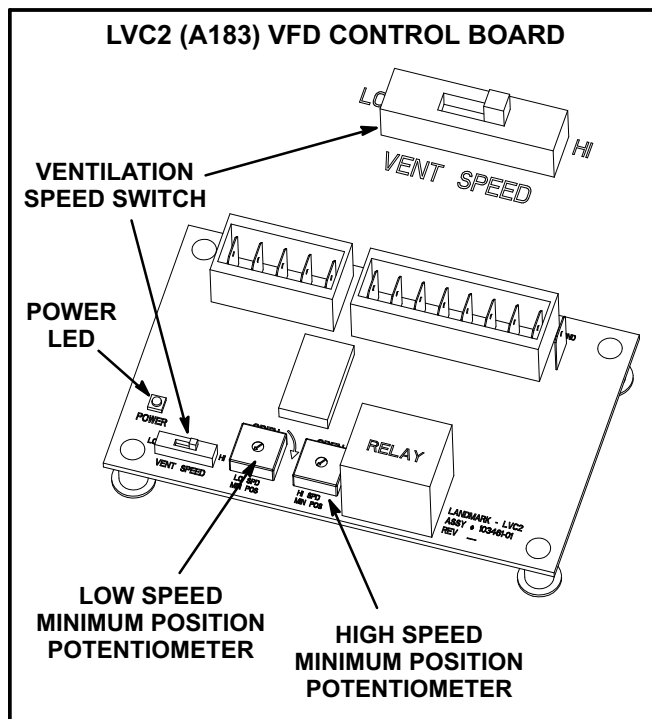

FIGURE 12
To save energy during ventilation, the blower speed can be set to low. This is accomplished by changing the ventilation speed switch on the VFD control board to "LO". See figure 12.
To maintain required minimum ventilation air volumes when the unit is in the occupied mode, two minimum damper positions must be set. A high and a low speed potentiometer are provided on the VFD control board to adjust minimum damper position. See figure 12.
- 5- Check the power LED on the board. See figure 12.
- 8- When LVC2 24VAC thermostat blower (G) input and 24VDC power are present, check the LVC2 low and high speed outputs. The LVC2 uses inverse logic to enable the blower; 1VDC will be read at the enabled blower speed terminal. See table 8.